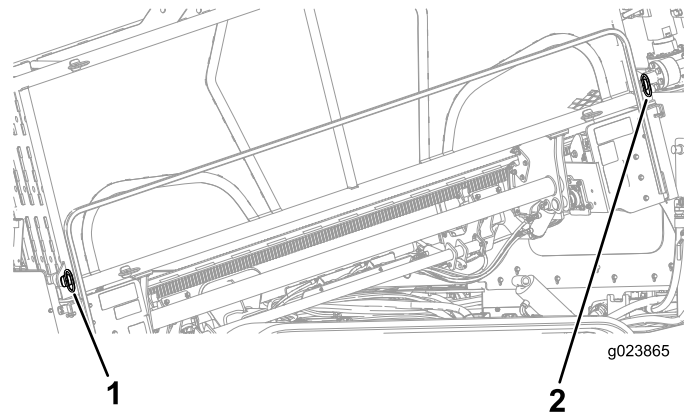

Figure 92
2. Remove the lower, outer pins on the pipe holder (Figure 92).